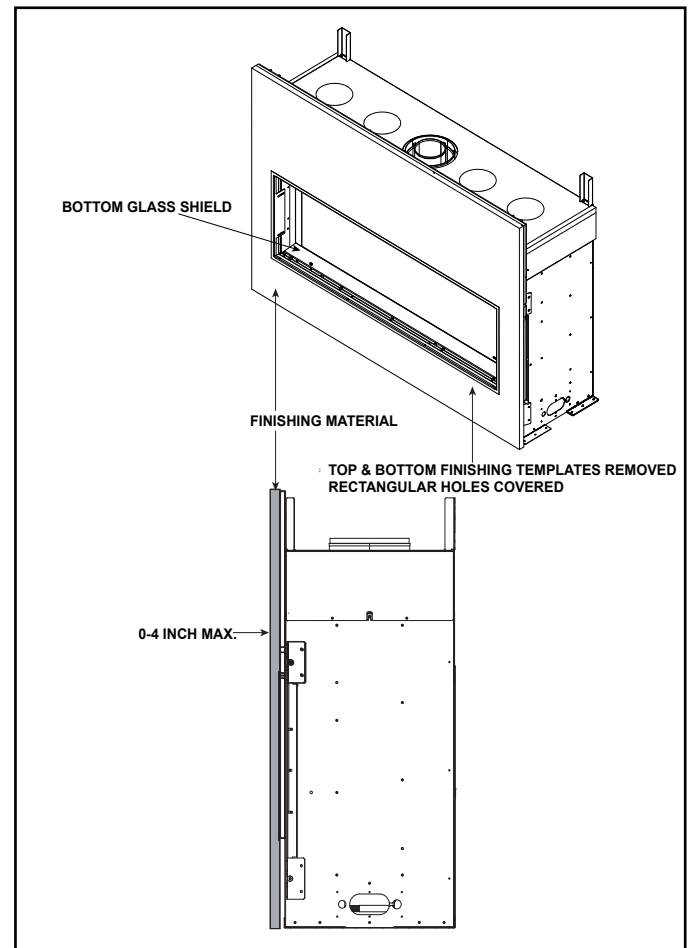

Figure 1 Finishing Options
2. Verify finishing material has been installed correctly before installing the CFT front. The eight rectangular holes on the bottom access panel **MUST** be covered. The maximum finishing material thickness is 4 inches. See Figure 1.
6. Check to make sure bottom glass shield is in place on the side that contains the controls. See Figure 1.
8. Check to make sure bottom glass shield is in place on the side that contains the controls. See Figure 1.